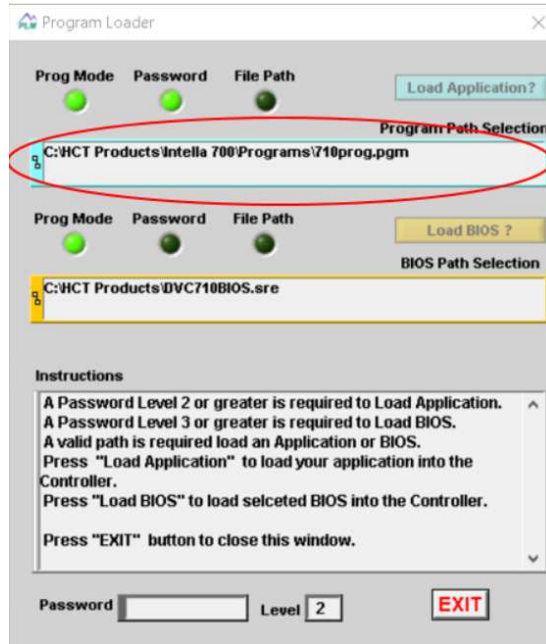
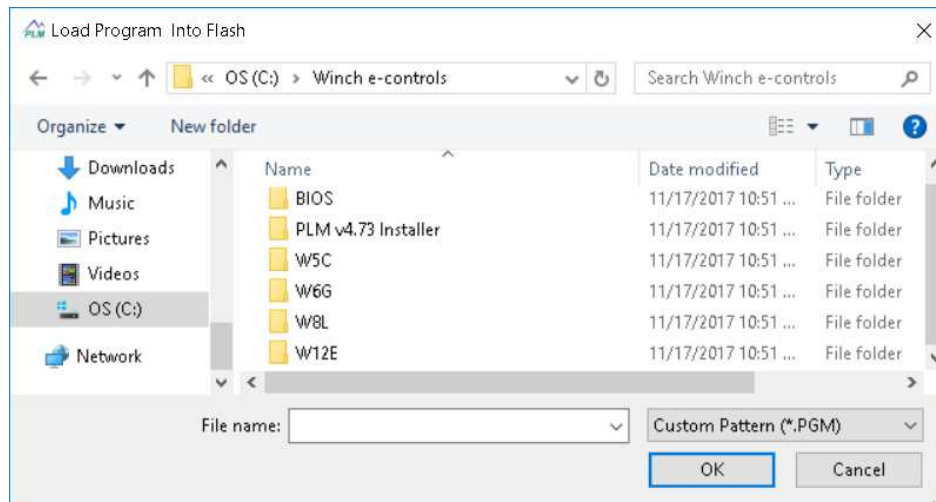

Figure 17 – Enabled Program Loader
Figure 18 – Selection window
- 9) When the Program Loader sees the ECM enter programming mode, the "Load Application" and the "Load BIOS" buttons will no longer be grayed out and the Prog Mode light will turn green as shown in Figure 17.
- 10) Click in the program selection field as shown in Figure 17 and navigate to the correct program folder on the USB drive or in C:\WINCH if the software was downloaded from the Allied website. Programs are winch model specific and will be found in a directory named after the winch model in question as shown in Figure 18. Note that the only files that will be shown for selection are the '.pgm' files.